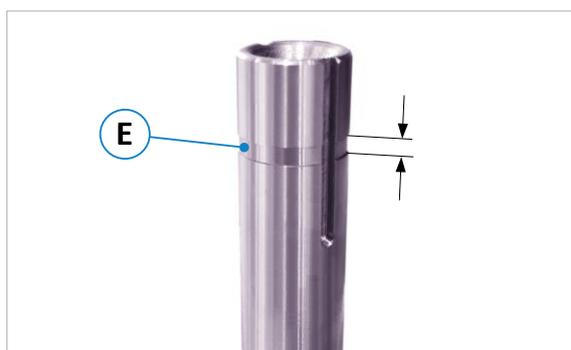

Figure 19: Marking for upper spacer ring
1. Loosen the clamping screw (S) on the quick-release nut (M) with the supplied SW4 pin spanner.
2. Then fully tighten the fixing screw (F) by hand and remove the quick-release nut (M) by taking it out.
3. Remove the spacer rings (D) and put on the new cutter head.
4. Put on the required spacer rings (D), if necessary. Place enough spacer rings so that the upper clamping surface of the upper ring is in the area (E) of the marking groove shown in ⇨ Figure 19.
5. Then put the quick-release nut (M) back on and tighten the fixing screw (F) by hand.
6. Now tighten the clamping screw (S) with the SW4 pin spanner → Tightening torque = **12 Nm**.
**With 12 Nm tightening torque of the clamping screw (S), the cutter is clamped with approx. 30 KN (= 3 t).**